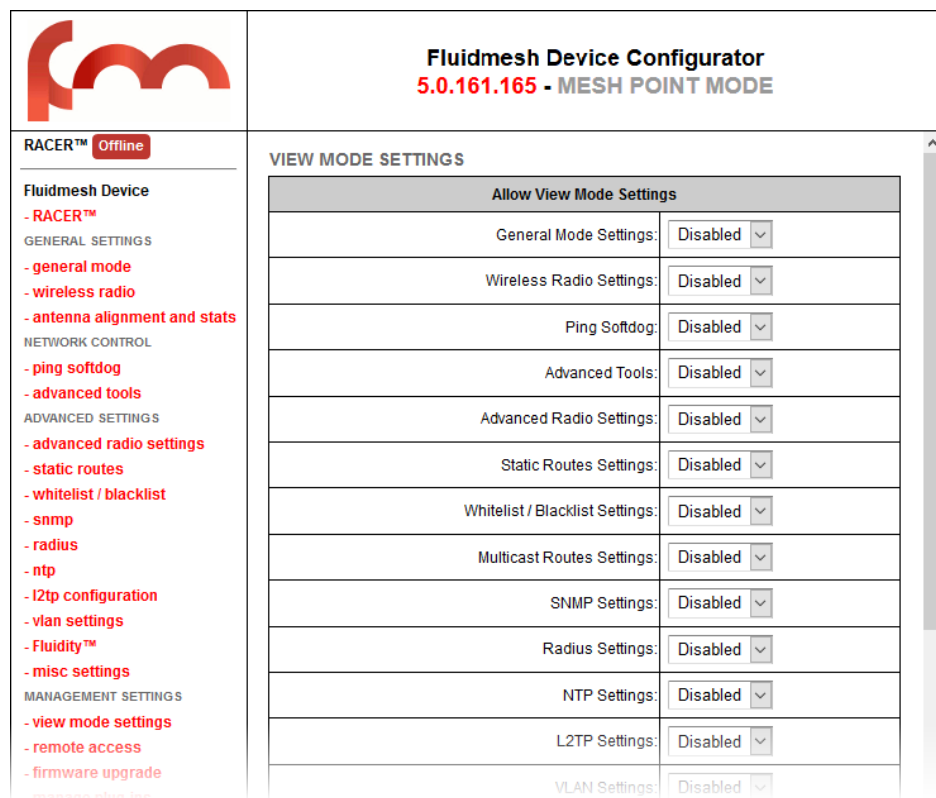

Figure 53. Configurator GUI (VIEW MODE SETTINGS dialog)
2. Click the **-view mode settings** link under **MANAGEMENT SETTINGS** in the left-hand settings menu (Figure 53 \(page 135\)).